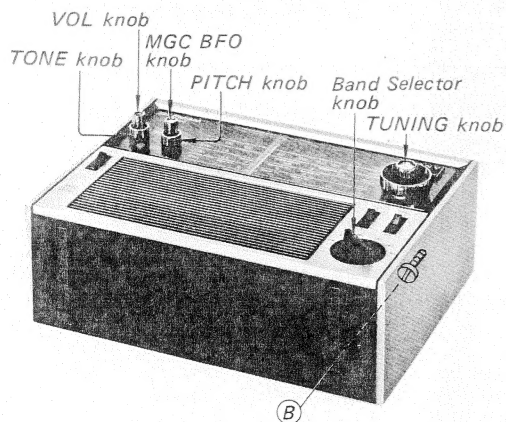

Fig. 2-2. Chassis removal
1. Pull out the six knobs, VOLUME, TONE, MGC BFO, PITCH, TUNING and Band Selector. (See Fig. 2-2.)
2. Loosen the screw marked (B) in Fig. 2-2.